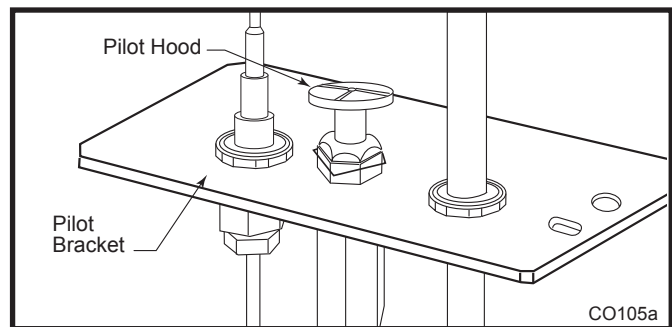

Fig. 43 Remove pilot hood.
- Remove pilot hood by lifting up. (Fig. 43) **NOTE:** It is not necessary to remove the pilot tube for conversion.